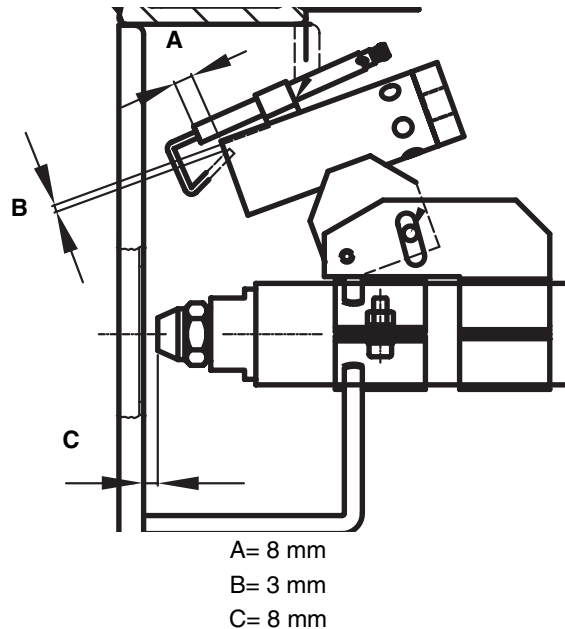

Fig. 21
- Remove, clean and check the combustion head (see Fig. 21).
To guarantee a good ignition, the measures below (in mm) must be observed (Fig. 21).
- 5 remove the electrode and replace it, referring to the values quoted on Fig. 21;